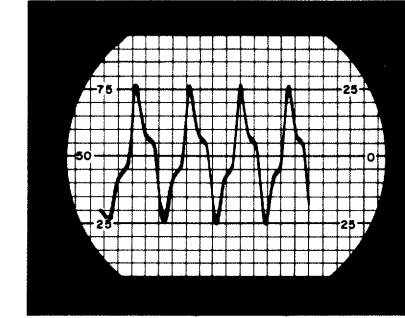

Figure 2.
- Adjust the 1000 cps input signal to 1.5 volt. This should drive the IDC circuit into full clip. See Figure 2.
- With this input signal level adjust the IDC control on the transmitter to provide a peak-to-peak recovered signal on the oscilloscope of 10 squares, which is equivalent to ± 5 kc deviation as shown in figure 2. A wide-band system should be adjusted for 30 squares (± 15 kc). If the waveform under the above conditions does not resemble the waveform shown in figure 2 adjust L101 until a symmetrical waveform is obtained. Re-adjust the IDC control.
- Adjust the 1000 cps input signal to 1.5 volts. This should drive the IDC circuit into full clip. See Figure 2.
- With this input signal level adjust the IDC control on the transmitter to provide a peak-to-peak recovered signal on the oscilloscope of 10 squares, which is equivalent to ± 5 kc deviation as shown in figure 2. If the waveform under the above conditions does not resemble the waveform shown in figure 2, adjust L101 until a symmetrical waveform is obtained. Re-adjust the IDC control.